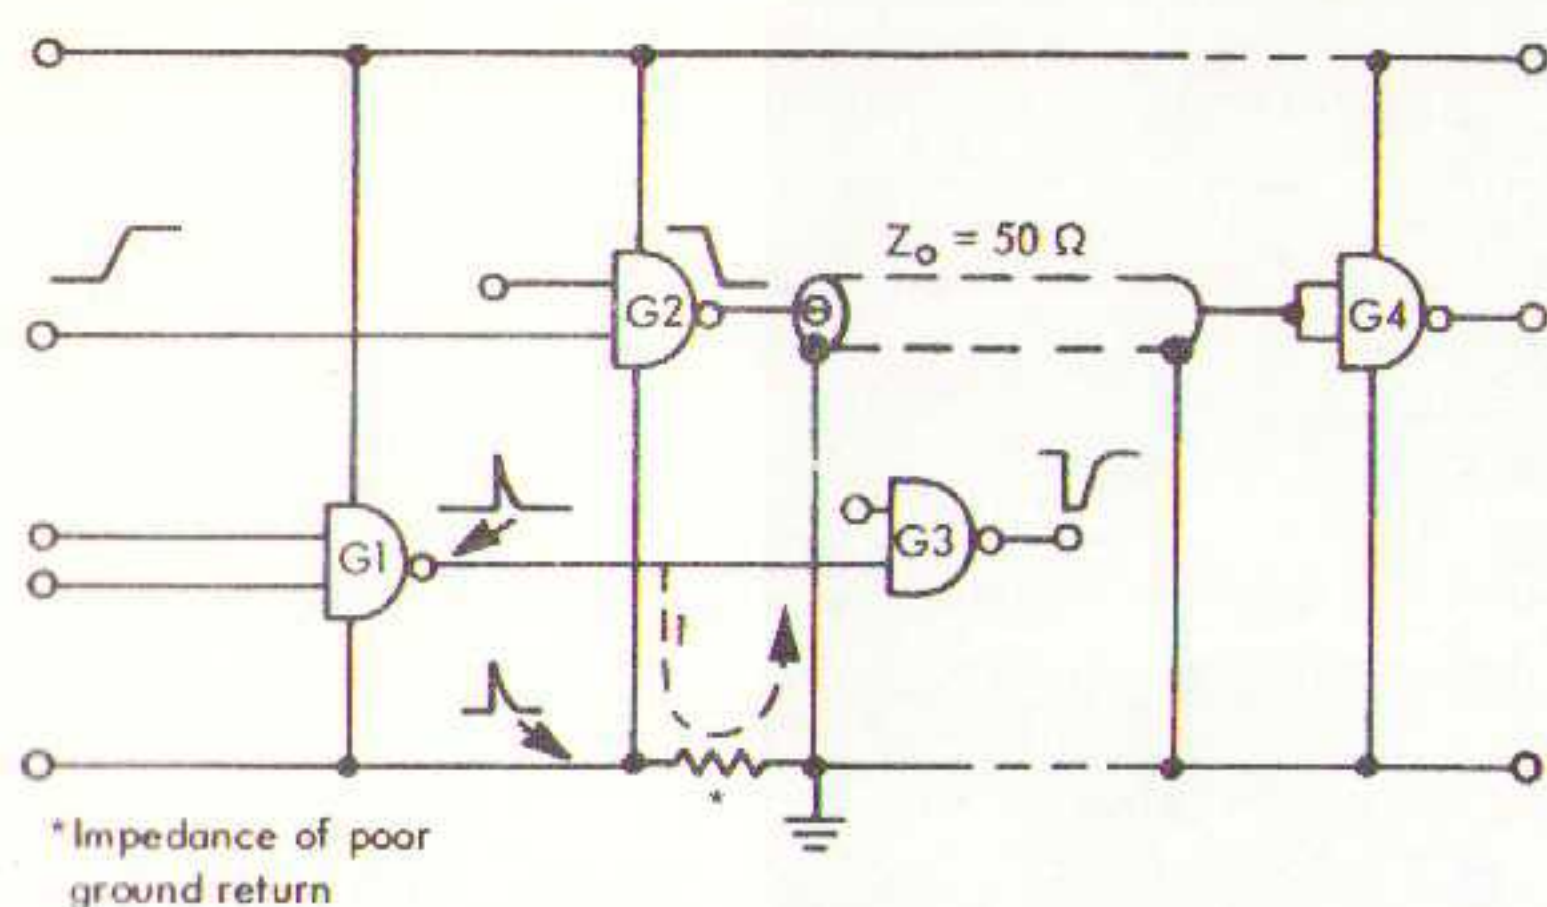

FIGURE 4. Noise Generation due to poor transmission line returns
This current also flows in the ground return, in this case the twisted pair ground. If the line and return are originated and terminated close to the driving and receiving devices, there is no discontinuity in the line. Where the ground is poorly returned, the currents flowing see the discontinuity in the cable as a high impedance, and a noise spike is generated. Viewed in a slightly different manner, the ground current sees a low impedance and a current cancellation if the ground is properly carried through; if not, it sees a high impedance. See Figure 4 for a specific example. Assume the gate driving the line is switched from the "1" to the "0" state. Current flows as indicated by the arrow marked I . Since the line is improperly returned to the driver, a pulse is developed across the impedance. A possible consequence is the false output of gate #3. If the ground return is properly made, desirable results are obtained in that the impedance discontinuity is eliminated and current cancellation occurs at the ground point. Undesirable voltage spikes are then eliminated. Two rules to reduce transmission line current effects to acceptable levels in TTL systems may be set forth. These are empirical rules found to be effective (see Figures 4 and 5):
1. Carry twisted pair and coaxial returns to a good ground termination close to the driving and receiving devices. Figure 4 illustrates the necessity for this practice.